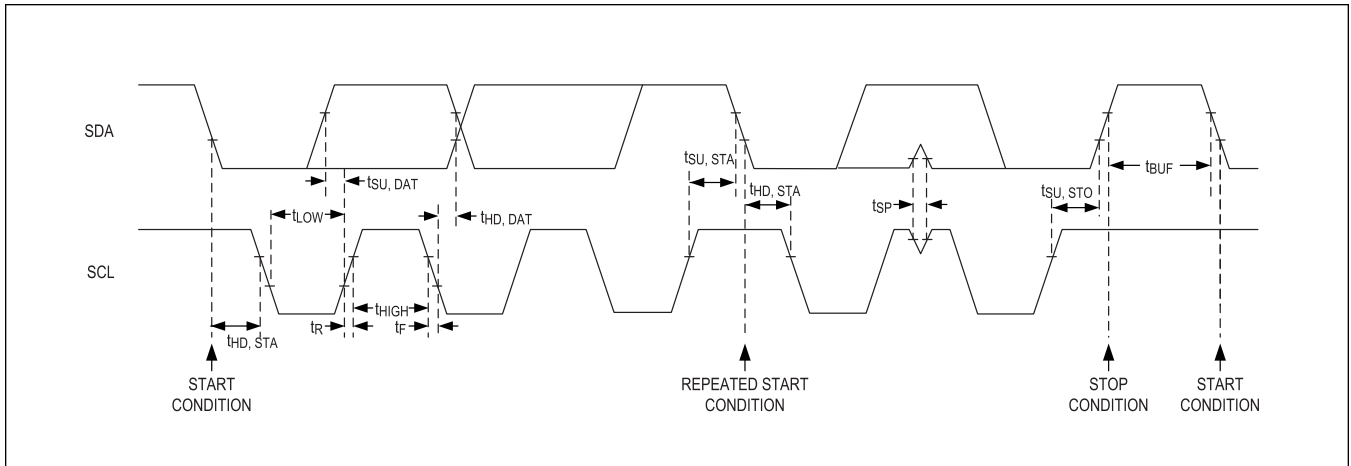

Figure 15. Detailed I2C Timing Diagram
Figure 15 shows the 2-wire interface timing diagram. The master generates SCL and initiates data transfer on the bus. The master device writes data to the MAX86171 by transmitting the proper slave address followed by the register address and then the data word. Each transmit sequence is framed by a START (S) or REPEATED START (Sr) condition and a STOP (P) condition. Each word transmitted to the MAX86171 is eight-bits long and is followed by an acknowledge clock pulse. A master reading data from the MAX86171 transmits the proper slave address followed by a series of nine SCL pulses. The MAX86171 transmits data on SDA in sync with the master-generated SCL pulses. The master acknowledges receipt of each byte of data. Each read sequence is framed by a START (S) or REPEATED START (Sr) condition, a not acknowledge, and a STOP (P) condition. SDA operates as both an input and an open-drain output. A pullup resistor is required on SDA. SCL operates only as an input. A pullup resistor is required on SCL if there are multiple masters on the bus, or if the single master has an open-drain SCL output. Series resistors in line with SDA and SCL are optional. Series resistors protect the digital inputs of the MAX86171 from high voltage spikes on the bus lines, and minimize crosstalk and undershoot of the bus signals.
The detailed timing diagram of various electrical characteristics is shown in Figure 15.